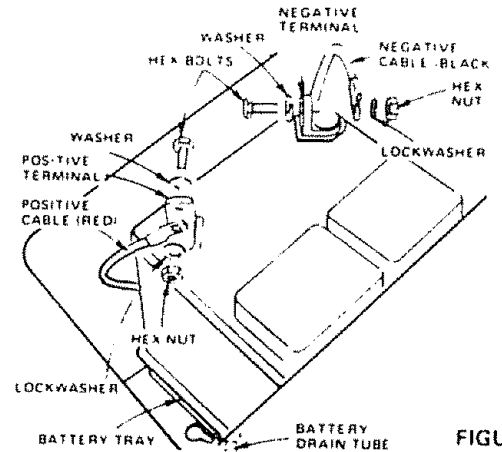

FIGURE 4
- b. Lower battery into fender well with battery terminals toward front of tractor (Fig. 4). Make sure battery rests in battery tray (Fig. 4)
- c. Connect **RED** battery cable to positive (+) battery terminal with hex bolt, flat washer, lockwasher and hex nut (shown full size on pg. 6) found in bag of parts. Tighten securely with two 7/16" wrenches. (Fig. 4)
- d. Connect **BLACK** ground cable to negative (-) battery terminal with remaining hex bolt, flat washer, lockwasher and hex nut (shown full size on pg. 6) found in bag of parts. Tighten securely. (Fig. 4)